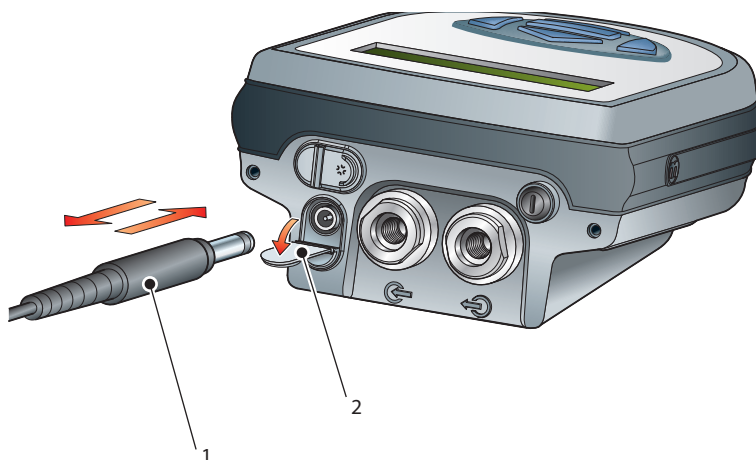

Figure 3.9 - Connect battery charger
3.7 Connect battery charger (Figure 3.9)
Fold down the flap (2) sealing the charger connector and insert the battery charger connector (1) into the charger connector to the instrument as shown in Figure 3.9.